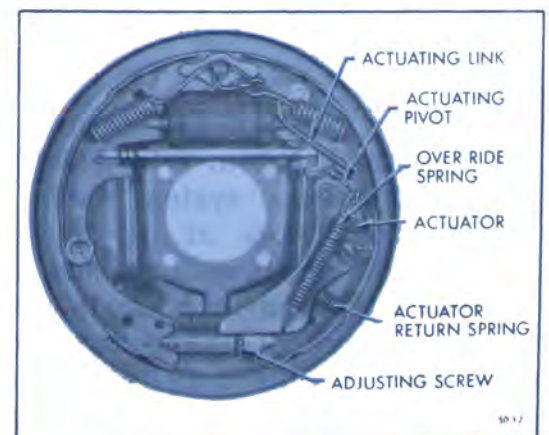

Figure 50-2—Left Rear Wheel Brake Assembly
mounted on the backing plate between the upper ends of the brake shoes forces the shoes against the brake drum when the service brakes are applied. On rear wheels only, a lever mounted on each secondary shoe and connected to the primary shoe by a strut is used for applying the shoes when used as parking brakes. See Figure 50-2.
The parking brake control system, which applies only the rear wheel brakes, uses a foot-operated lever, cables and brake shoe levers and struts. By means of an equalizer, the front parking brake cable is connected to the forward portion of a center cable. See Figures 50-3, 4 or 5. This center cable is routed rearward from the equalizer through retaining guides which attach to the underbody. The center cable attaches at either end to a rear cable assembly. Each rear cable connects to the free lower end of a brake shoe lever. These levers (one in each rear brake shoe assembly) pivot on the secondary shoes. Struts are mounted between the brake shoe levers and the primary shoes. See Figure 50-2.
6. Separate the brake shoes by removing adjusting screw and lock spring. Remove parking brake lever from secondary brake shoe (rear only). See Figure 50-2.